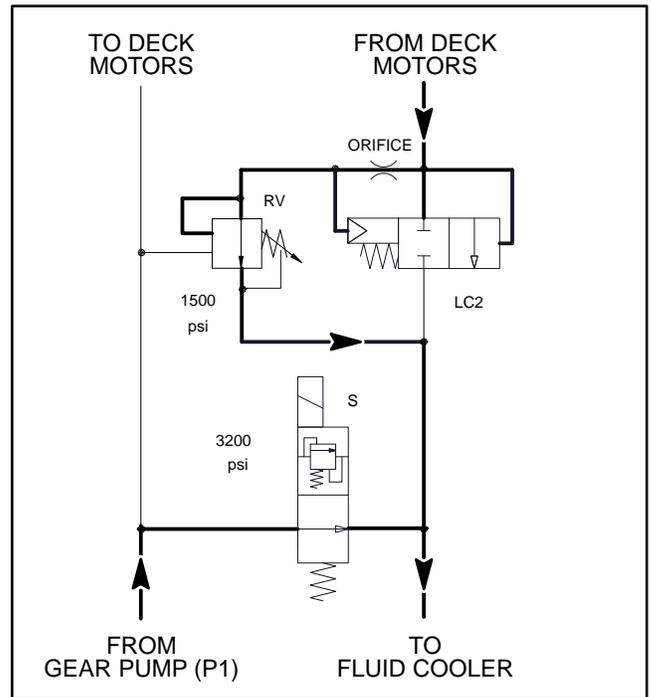

Figure 22
The inertia of the rotating cutting blades, however, effectively turns the deck motors into pumps immediately causing an increase in return pressure against the closed relief valve (RV) and logic cartridge (LC2). When this pressure builds to approximately **1500 PSI (104 bar)**, the relief valve (RV) opens which allows a small amount of hydraulic flow past the relief valve (Fig. 22). This returning flow is restricted by the orifice in the logic cartridge (LC2) creating a pressure imbalance that shifts the logic cartridge to allow oil flow from the deck motors to pass through the manifold (Fig. 23). When return pressure drops below **1500 PSI (104 bar)**, the relief valve reseats blocking flow through the orifice in the logic cartridge. The loss of flow causes the logic cartridge to close again, stopping the cutting blades. Once the blades have stopped, the logic cartridge remains in the closed position to keep the deck motors from rotating.